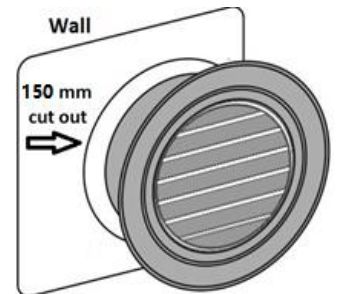

Fig. 5
6. Feed the length of the Flexible Aluminium Ducting (F) through the ceiling cavity to the chosen location of the External Outlet Grille (I).
7. **INSTALLING THE EXTERNAL OUTLET GRILLE (Fig. 5):**
- Feed the Flexible Aluminium Ducting (F) through the hole and connect it to External Outlet Grille (I) using one of the provided Cable Ties (G). Ensure the connection is secure.